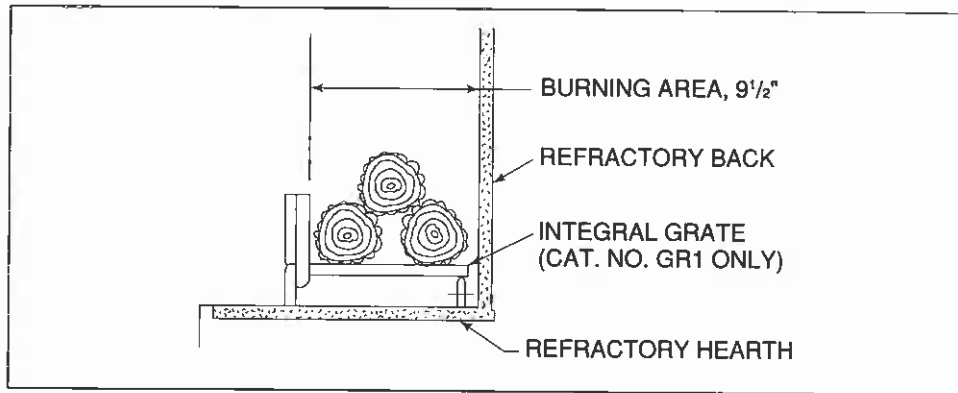

Figure 21
E. GRATE. The factory installed Integral Grate must be used to hold the logs from falling out of an open fireplace and to allow air to pass between the burning logs. It is important to keep the fire off the hearth and to allow the ashes to collect beneath the fire, thereby forming a layer of additional heat protection. See Figure 21. Use only Catalog Number GR1 Integral Grate for replacement.
- H. **SETTING THE FIRE.** Check the flue damper to be sure it is fully open. Place crumpled or twisted paper under the Grate. Loosely arrange kindling or small pieces of wood to form a layer above the paper. Place three logs in a rough pyramid as shown in Figure 21, being sure to allow free air space between the logs. Small sticks of wood may be used to separate the logs. Use only solid wood fuel or a listed decorative gas appliance. Do not use a fireplace insert or other products not specified for use with this fireplace. **NOTE:** When heated the first time, the temperature of the fireplace must be raised gradually, to prevent moisture within the refractory from causing cracks, and to allow the binders in the insulation to dissipate.